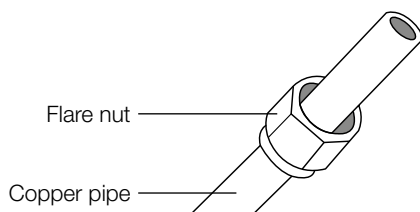

Fig. 7.5
3. Place flare nuts on both ends of pipe. Make sure they are facing in the right direction, because you can't put them on or change their direction after flaring. (See Fig. 7.5)